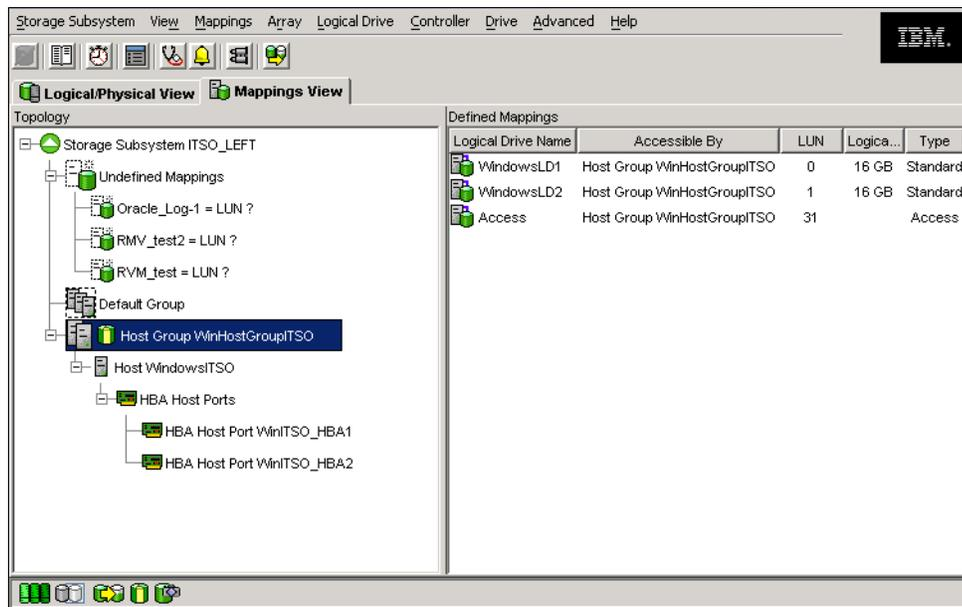

Figure 5-69 A new storage partition in Mappings View
- Click **Finish** when you are done with selecting the logical drives and assigning the LUNs. This completes the process. Figure 5-69 shows an example of our newly created storage partition in the mappings view.